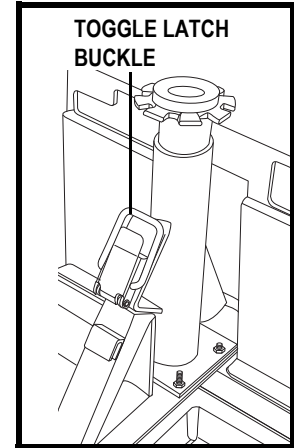

Figure 15B. Buckle Secured
2. Position the toggle latch buckle over the top of the toggle latch. See figure 15B.